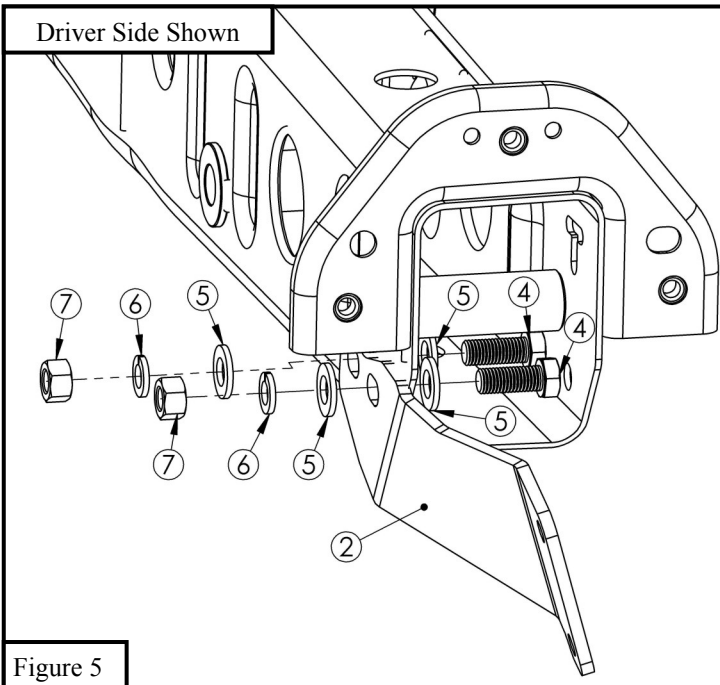

Figure 5
6. Locate (1) mount bracket (Item 2/3). Loosely install brackets using the provided M12 hardware. Repeat for other side. See **Figure 5**.